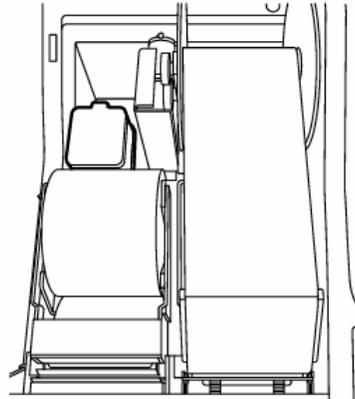

Fig.8
3. Open the battery cover in the rear left section of the component (See Fig. 8).